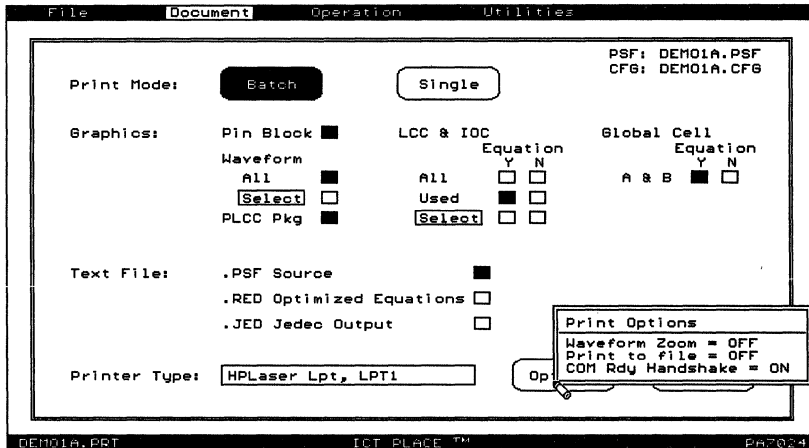

Figure 10-58, "Options" command
- Options Selects additional printing options (Figure 10-58).